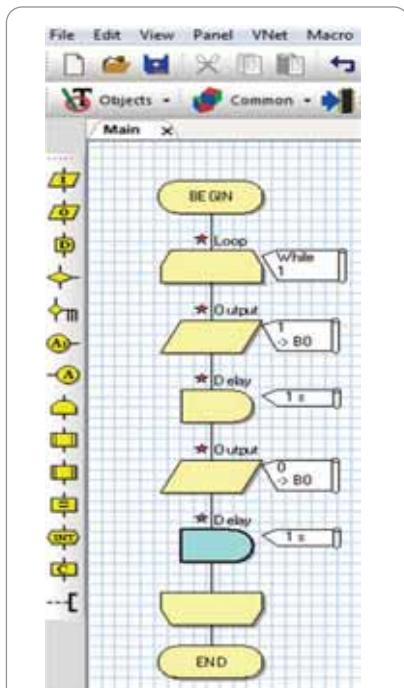

Figure 6: Insert one-second delay block after turning OFF the port pin
5. Insert another one-second Delay-block after turning the port pin OFF, as shown in Figure 6.